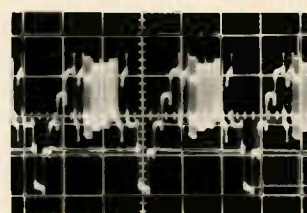
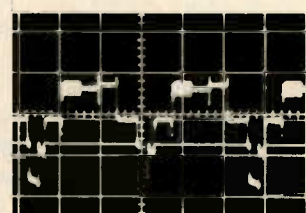

Figure 20 At pin 15 of the comb-filter board, the bar-sweep pattern should have this waveform.
Figure 21 At the pin-15 YO (luminance output) of a correctly operating RCA comb filter, the chroma-sweep pattern should have almost no chroma amplitude.
5. Check the luminance signal at pin 15 (YO) on the comb filter PC board. The Bar Sweep pattern should appear as shown in Figure 20. The 3.56MHz bar should show almost no signal information. The Chroma Bar Sweep pattern, as shown in Figure 21, should show almost no chroma information.